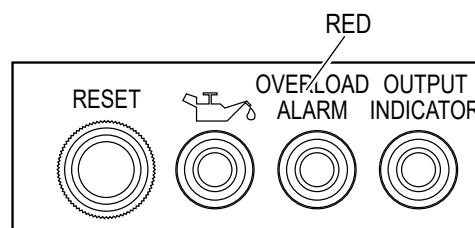

Figure 22. Overload Alarm (RED)
10. If the overload alarm (red) stays on (Figure 22) instead of the output indicator (green):